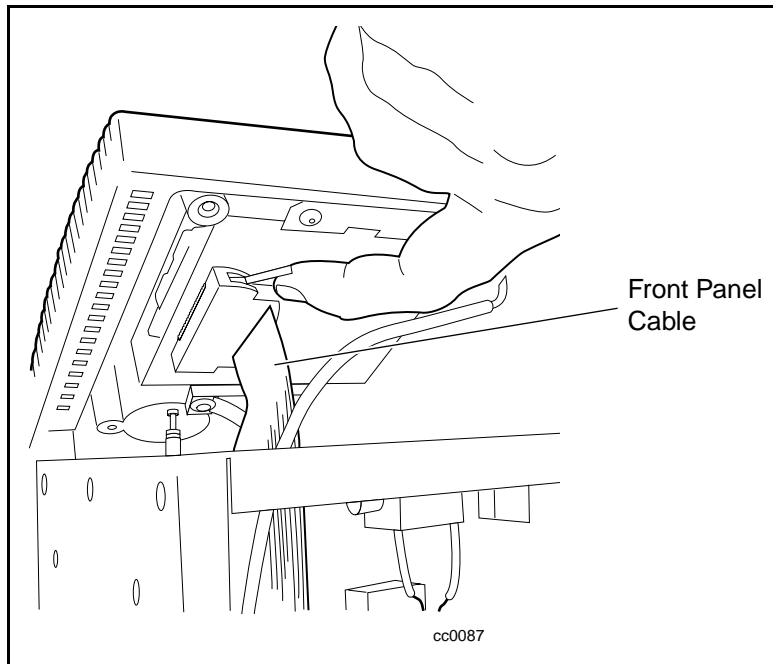

Figure 5-17. Disconnecting the front panel cable
4. Disconnect the front panel cable (see Figure 5-17).